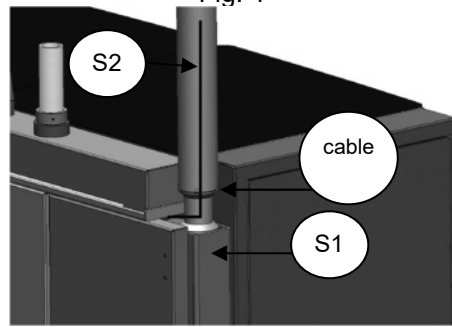

Fig. 6
8. Thread the fastening cone **S1** to the tube column **S2** (Fig.6)